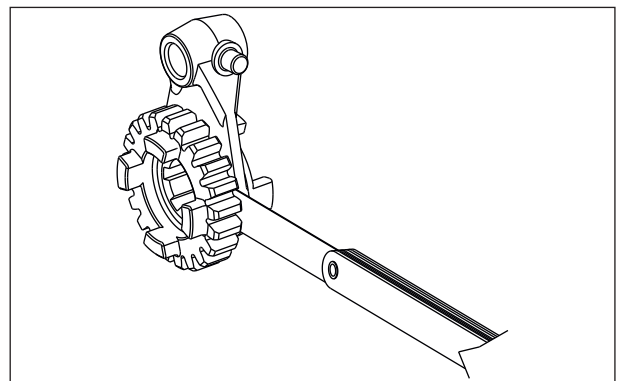

Fig. 3.166
- Using a feeler gauge, check the clearance between fork gear shift and its seating groove on the gear. (Fig. 3.166)